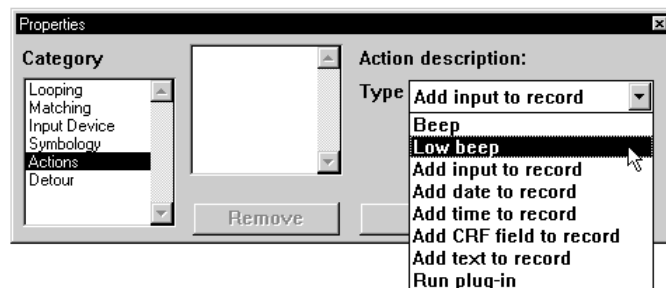

Figure 4-51 Choose Low Beep Action from Menu
25. Choose **Low beep** from the **Action description** pop-up menu (Figure 4-51).